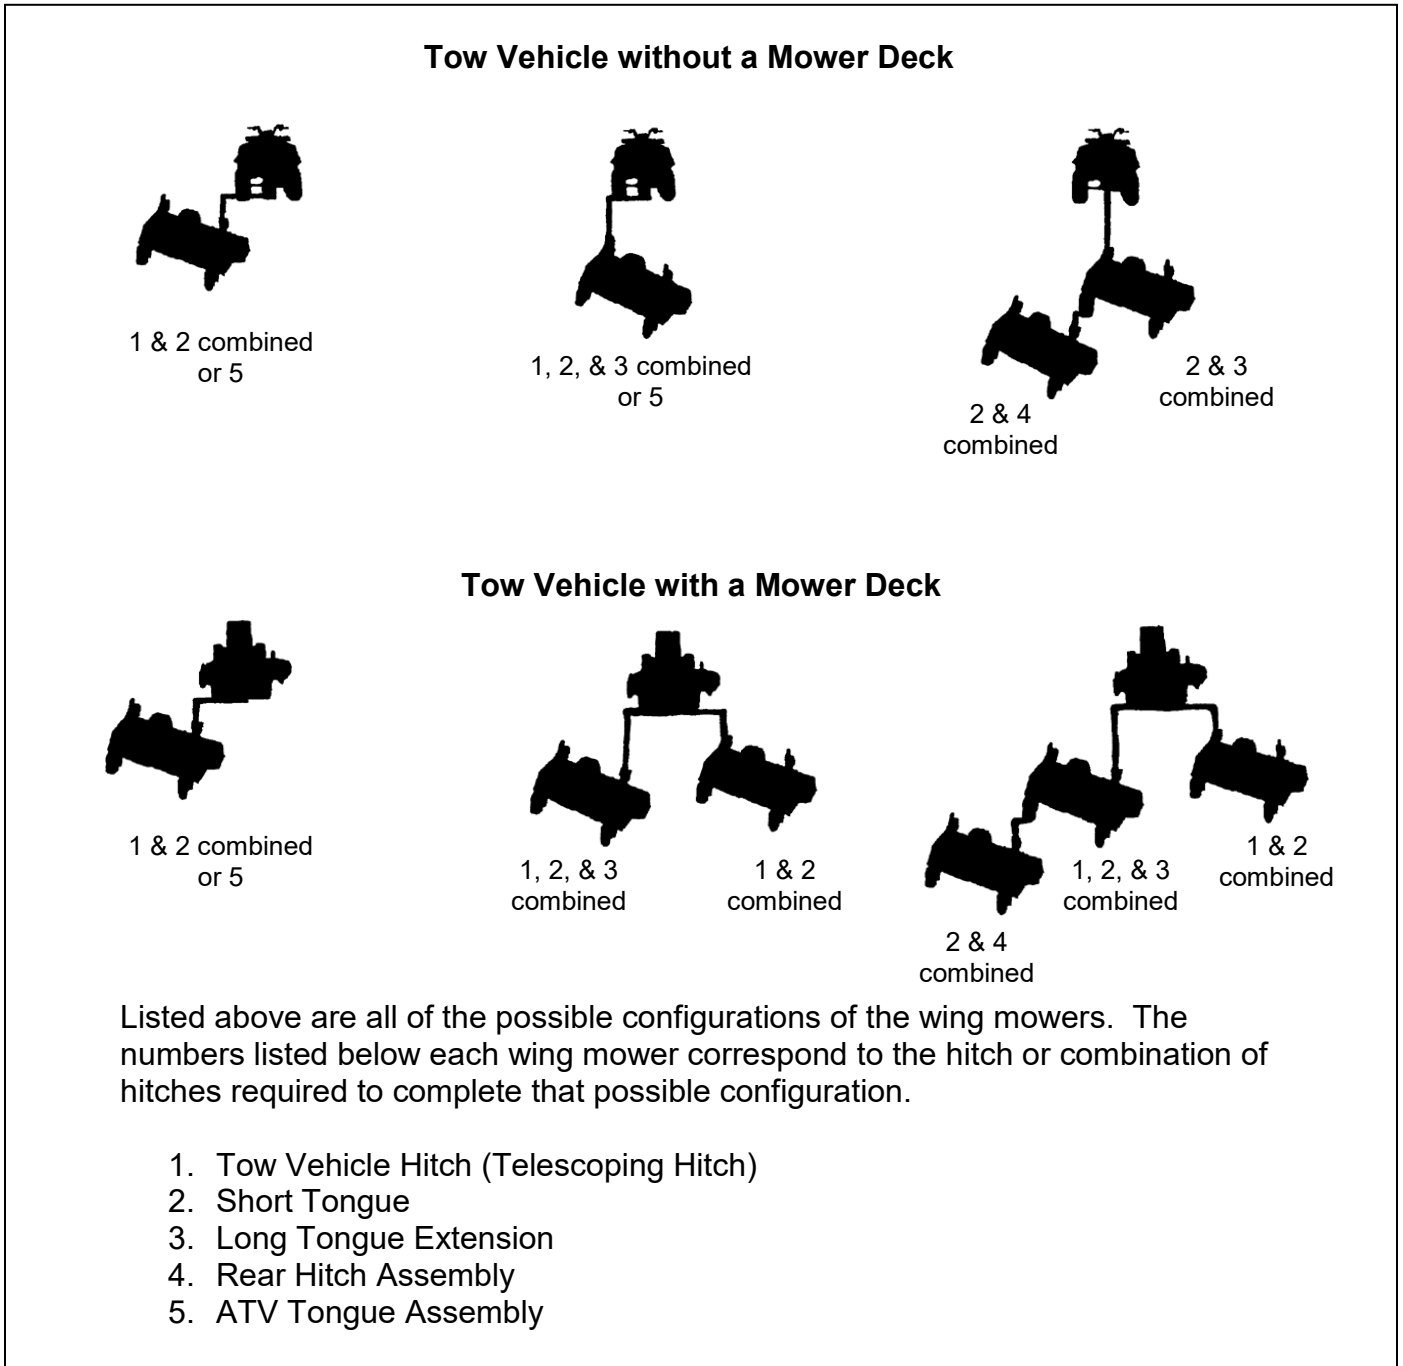

Figure 5: Wing Mower Towing Suggestions and Required Hitches
A. HITCH CONFIGURATIONS (Refer to Figure 5)
B. ATV TONGUE CONFIGURATIONS (Refer to Figure 5)